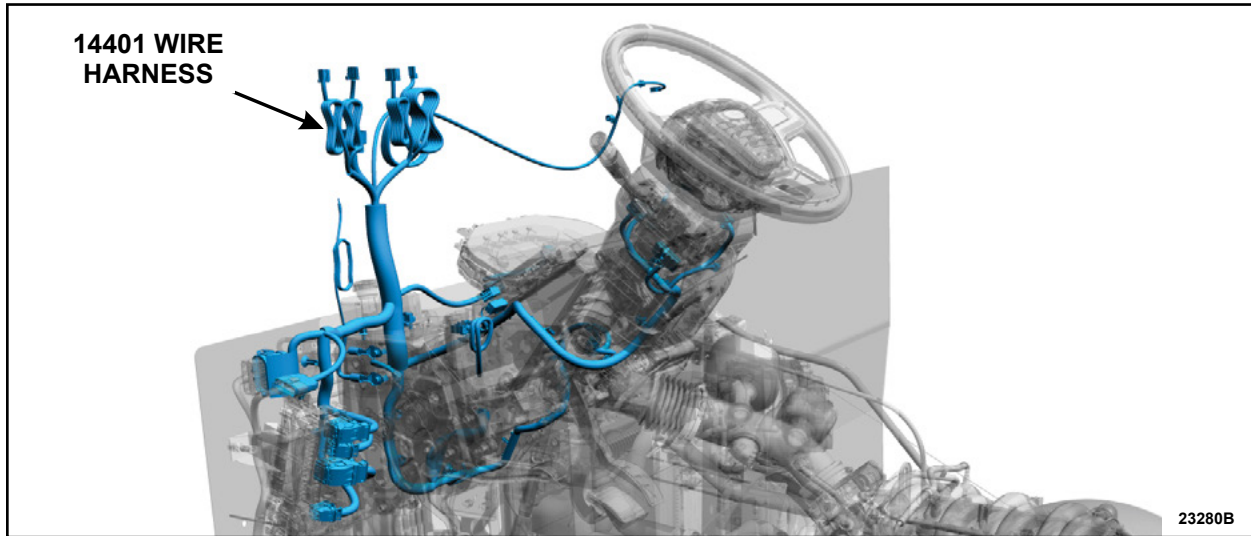

FIGURE 5
16. Replace the 14401 wire harness. See Figure 5.